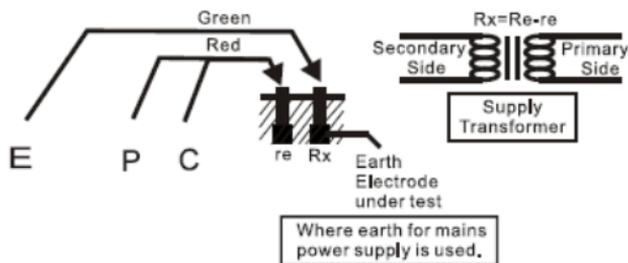

Fig.2
- (1) This method is recommended where an earth resistance higher than  $10\ \Omega$  is measured or where it is not possible to drive auxiliary earth spikes. An approximate value of earth resistance can be obtained by the two wire system where is shown in Fig. 2.
- (2) Rotate the function switch to “EARTH VOLTAGE” position and press to test. Make certain that earth voltage is less than 10V.
- (3) First rotate the function switch to “ $200\ \Omega$ ” position and press to test, read earth resistance. If the display shows “1”(MSD), switch to “ $2000\ \Omega$ ” position and read earth resistance.
- (4) The reading obtained ( $R_x$ ) is an approximate earth resistance value. There is no need for external shorting as P and C terminals are shorted by using the test leads specified for the Simplified measurement.